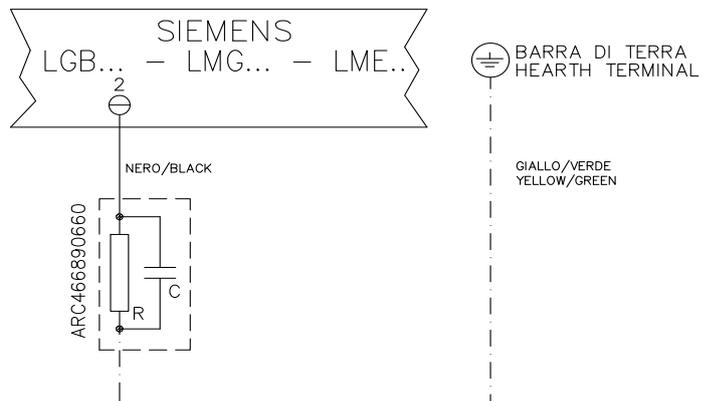

Fig. 26 - Power supply terminal block
- Execute the electrical connections to the supply terminal board as shown in Fig. 26, check the direction of the fan motor (see related paragraph) and refit the panel cover.